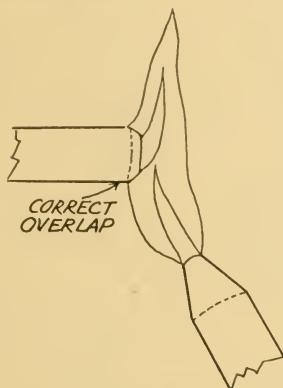

FIGURE 87
(42) The "right point" has been found to be that which will cause the negative gas stream to impinge just a little upon the lower edge of the positive crater.
(43) Fig. 87 shows the exact correct arc gap measurements for a 16 mm positive trim and illustrates the negative position that will cause loss of light and flickering of the arc. *NOT*